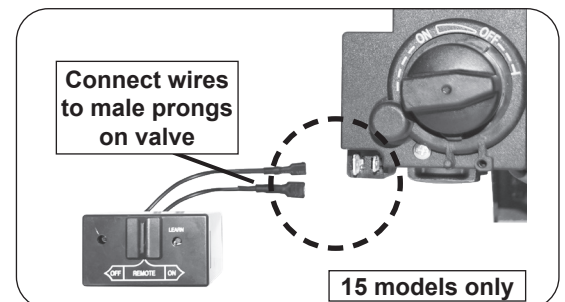

Fig. 17-3 Connect remote receiver to valve (if applicable)
2. Locate the wires coming off of the remote receiver, and connect them to the two male prongs found on the valve (see Fig. 17-3).